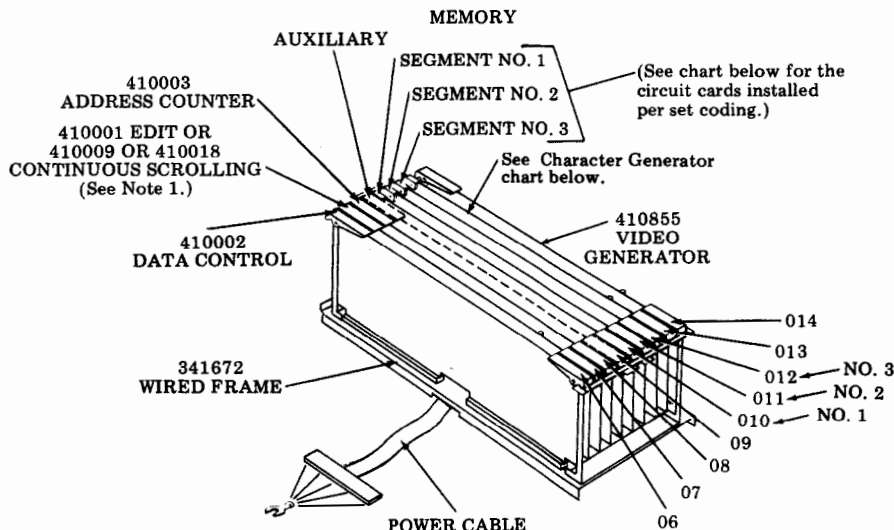
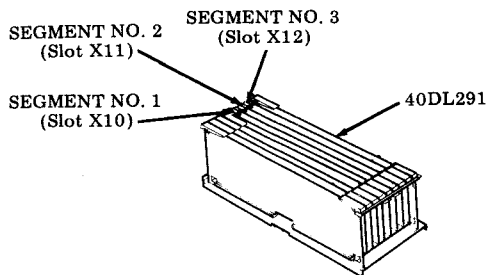

Fig. 14
Fig. 25
A. Display Logic (Fig. 14)
Step 7 — Check the display logic making sure the cards are seated and properly positioned for called arrangement (Fig. 25). Refer to Fig. 14 for circuit card numbers and their proper locations.